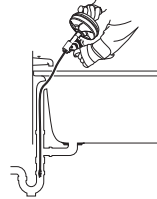

Figure 6
- For bathtubs, never try to go through the drain, this will damage the cable. Remove the overflow plate and any mechanism to access the drain (See Figure 6).